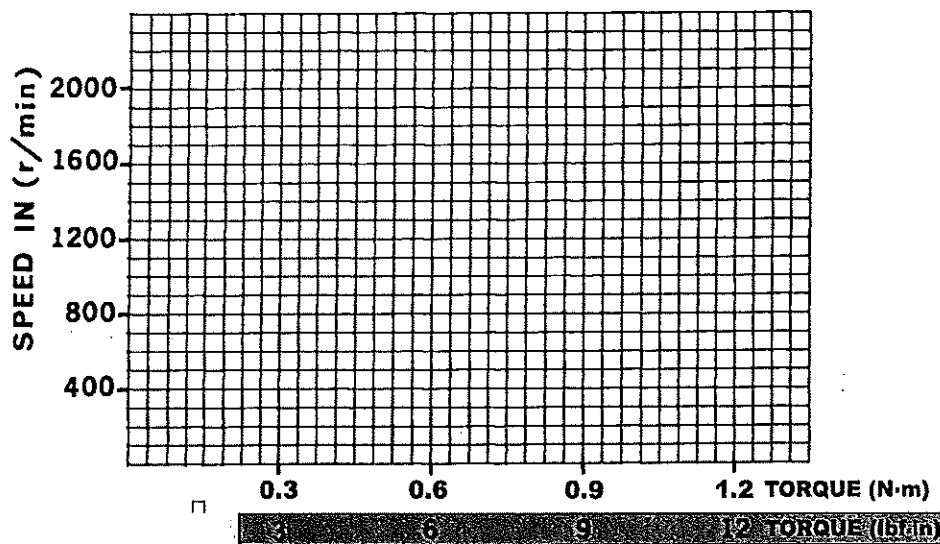

Figure 4-2.
7. a. Plot the recorded motor speed values from Table 4-1 on the graph of Figure 4-2.